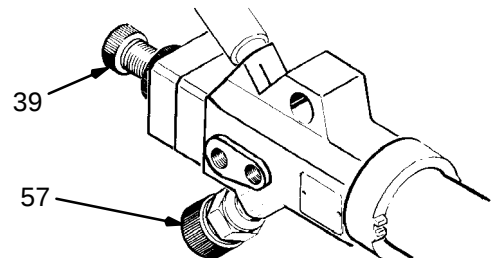

Fig 2
4. Adjust the fluid adjusting screw (39) so that needle travel is not over 4.7 mm (0.187 in.) when air is supplied to the cylinder port of the actuator. See Fig 2.
6. Use the fan valve (57) to change the shape of the spray pattern. See Fig 2. Turn the fan valve knob *counterclockwise for a wide pattern* and *clockwise for a solid, round pattern*.
3. Note the position of the fluid adjusting screw (39). See Fig 2. Turn the fluid adjusting screw to relieve spring tension on the needle assembly.